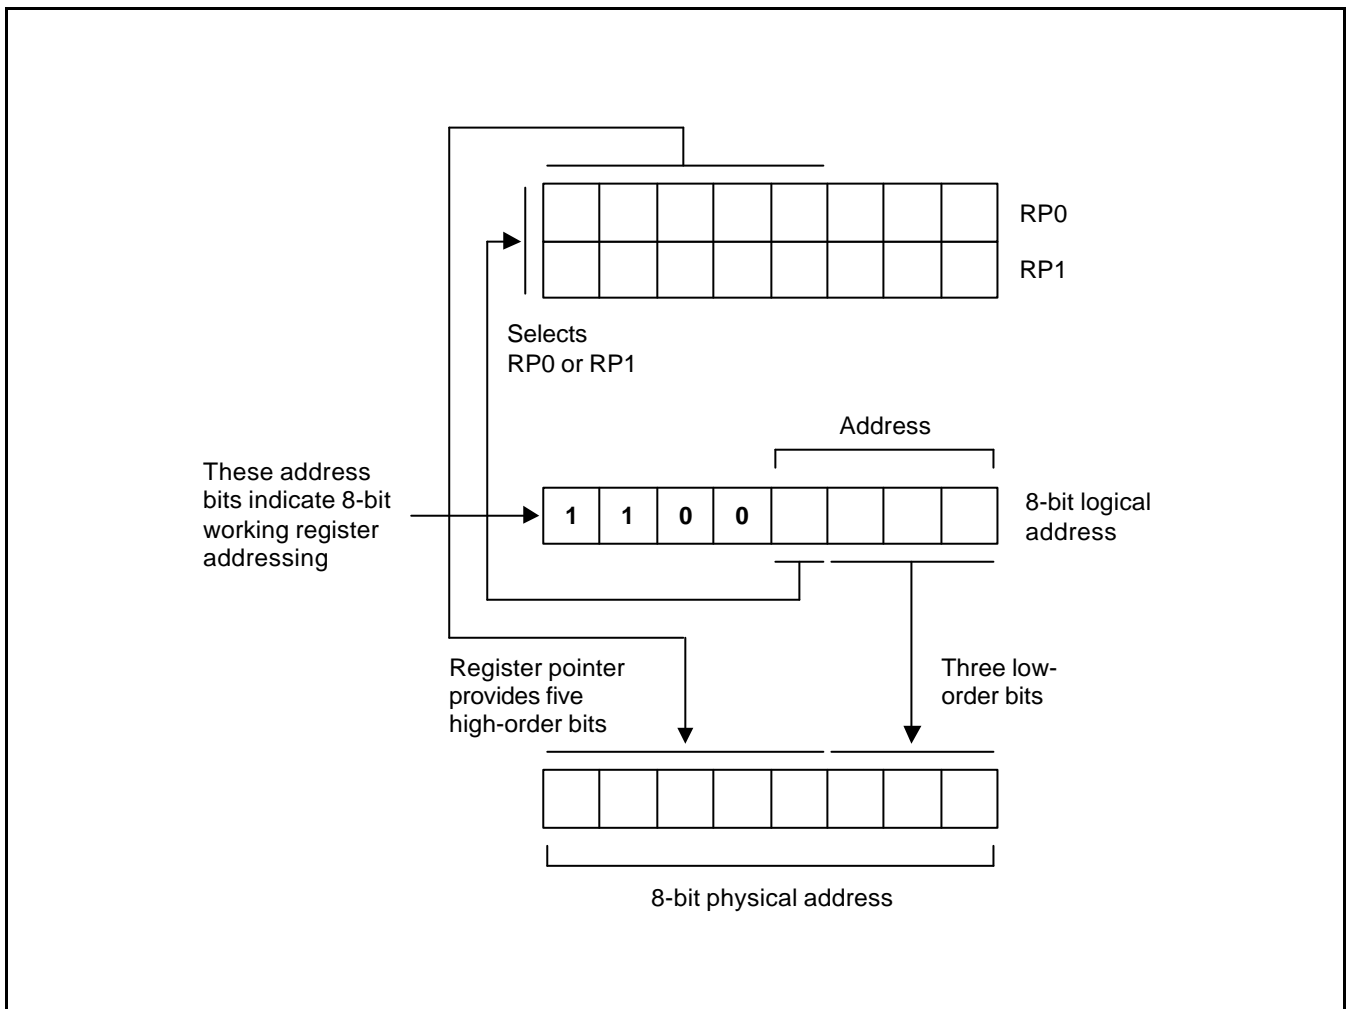

Figure 2-15. 8-Bit Working Register Addressing
Figure 2-15 shows an example of 8-bit working register addressing: the four high-order bits of the instruction address (1100B) specify 8-bit working register addressing. The fourth bit ("1") selects RP1 and the five high-order bits in RP1 (10100B) become the five high-order bits of the register address. The three low-order bits of the register address (011) are provided by the three low-order bits of the 8-bit instruction address. Together, the five address bits from RP1 and the three address bits from the instruction comprise the complete register address, R163 (10100011B).